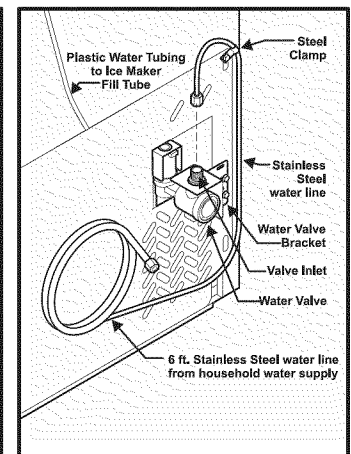

Figure 2
- 5 **If you use stainless steel tubing** - The nut and ferrule are already assembled on the tubing. Slide compression nut onto valve inlet and finger tighten compression nut onto valve. Tighten another half turn with a wrench; **DO NOT** over tighten. See Figure 2.